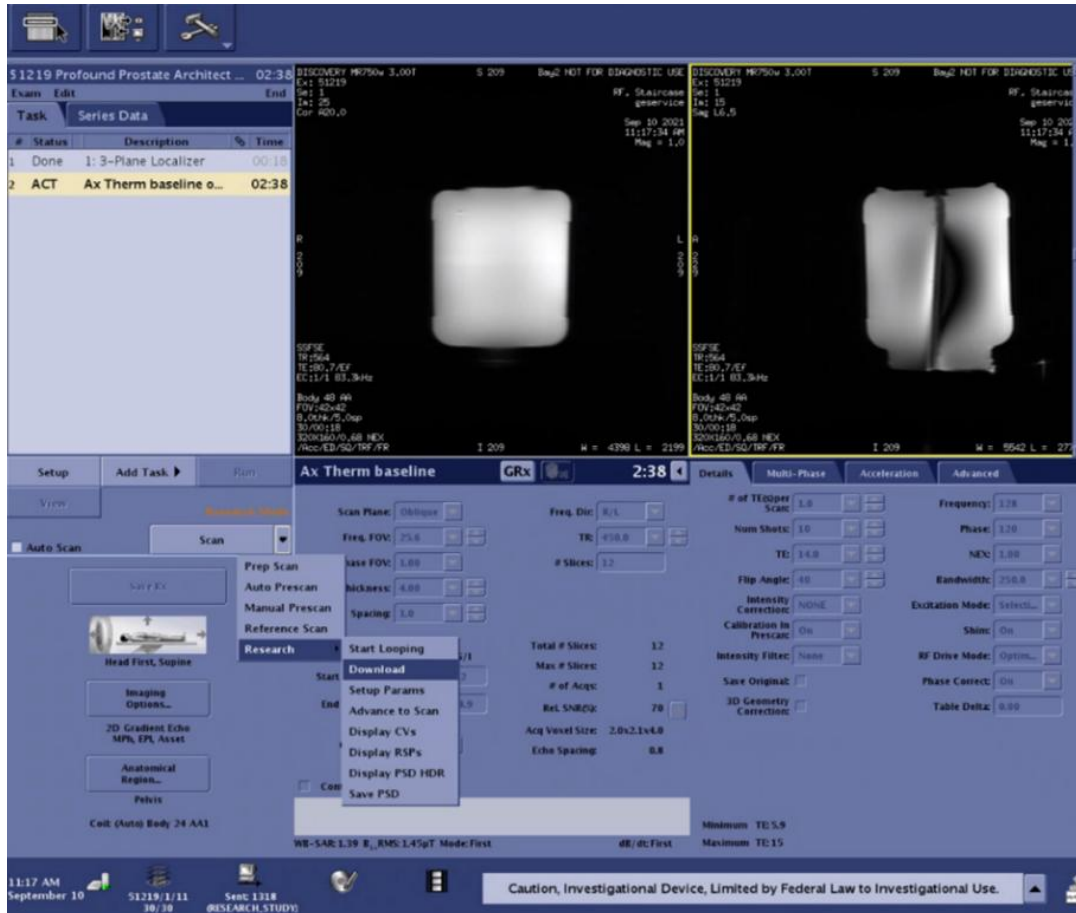

Figure 38: Downloading AX THERM scan parameters to the MRI
3. In the dropdown list next to the **Scan** button, select **Research > Download** (Figure 38). Wait a few seconds for the parameters to download to the MRI.